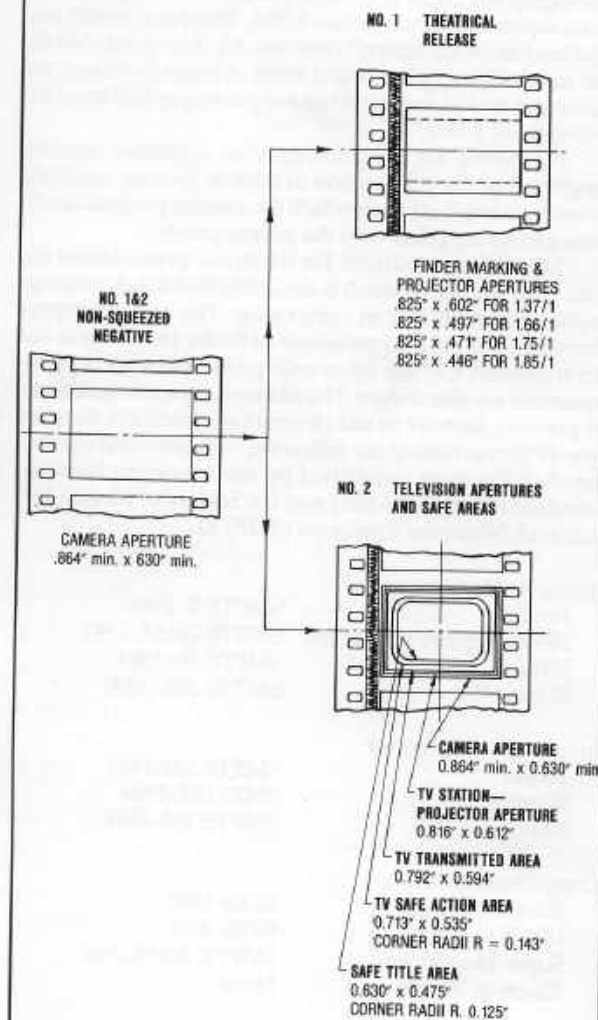

Figure 1.
1. 35mm camera, spherical lens (non-squeezed) photography for theatrical presentation (Sound area blocked). (See Figure 1.)
2. 35mm camera, spherical lens (non-squeezed) photography for television presentation (Sound area blocked). (Figure 1) (See also "Television Film Cinematography.")